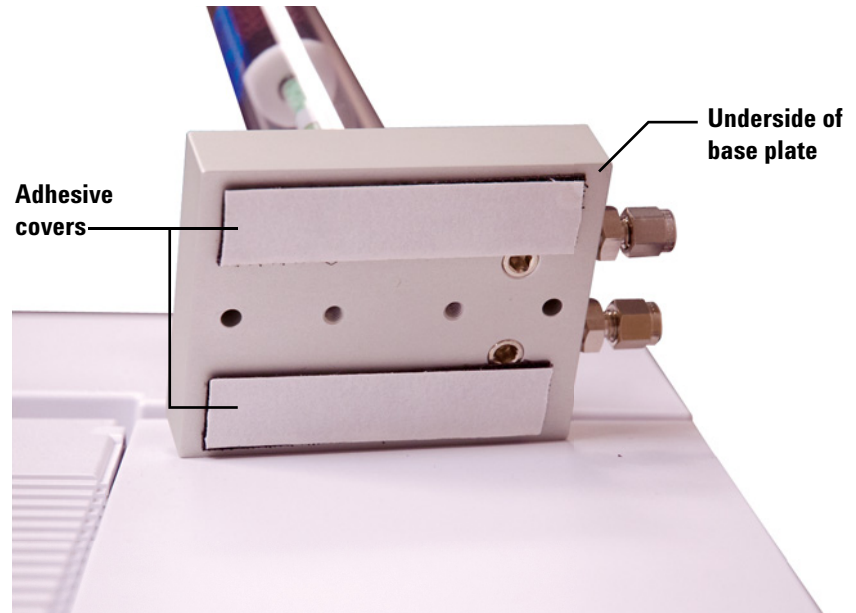

Figure 12 Peel and remove the adhesive covers from the bottom of the hook and loop fabric strips
- 2 Peel and remove the paper adhesive covers from the bottom of the hook and loop fabric strips (Figure 12).